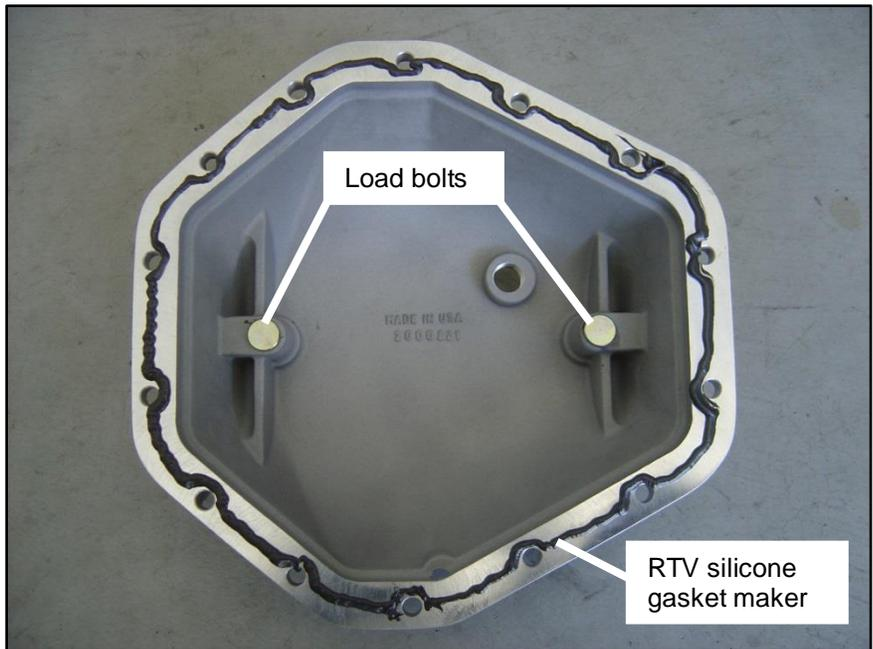

Figure 4
STEP 12. Apply a bead of RTV silicone gasket maker to the **B&M Cast Aluminum Rear End Cover**. Run the bead inside the bolt holes (**See Figure 4**).